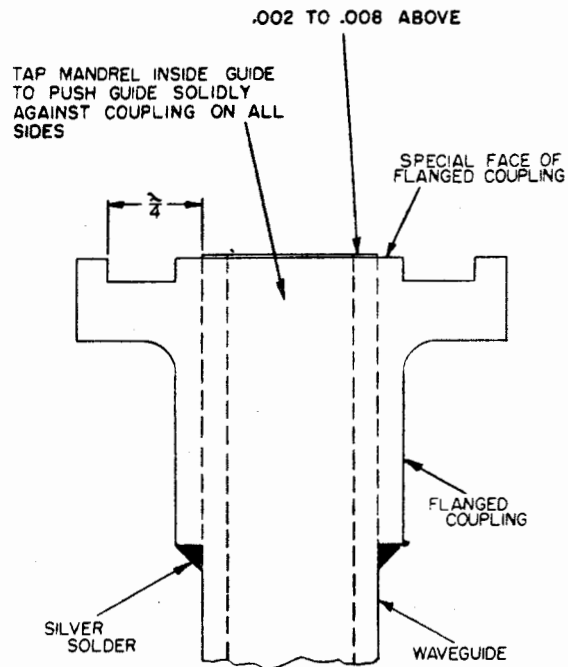

Figure 11-29. Attachment of Flange Coupling to Waveguide
(1) Thoroughly clean the contact surfaces to be brazed, using fine emery paper or crocus cloth.
(2) Square up the edges of the guide.
(3) Insert the guide in the flange coupling and leave .002 inch to .008 inch of guide outside of the coupling. This clearance is needed to insure a perfect face-to-face butting with the two flanges without any interference to the guide and assures a positive electrical connection between sections. See Figure 11-29.
(4) Apply silver-solder flux (Stock No. G51-F-640) or borax using a brush.